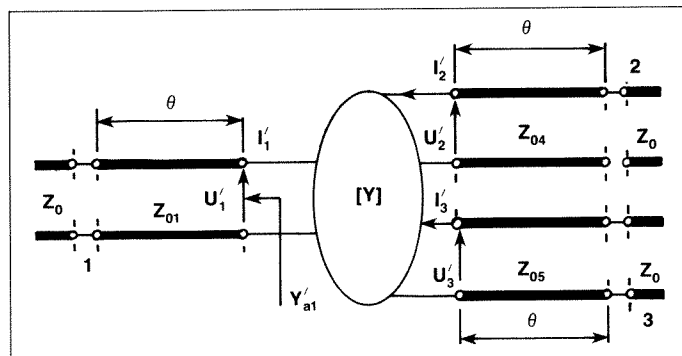
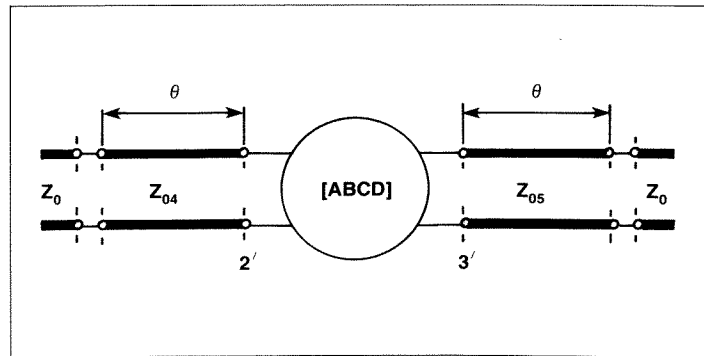

Figure 2. Definition of admittance parameters $[Y]$.
Figure 3. Equivalent circuit for determining S_{22} , S_{23} , S_{32} , and S_{33} .
At any electrical length, θ , the main divider section (see Figure 2) may be
Due to description (1) the scattering parameters of the entire divider can be easily obtained by using the conventional approach, i.e. the transfer matrix technique (5,6). As an example, let us calculate the elements S_{22} , S_{23} , S_{32} and S_{33} of the scattering matrix being sought. In this case the equivalent two-port network placed between planes 2' and 3' is similar to that shown in Figure 3. According to (1) and Figure 2 the transfer matrix (ABCD) of this network is
Consequently, the transfer matrix of the entire divider may be calculated by multiplying the corresponding transfer matrices of the cascade components shown in Figure 3. When the resulting matrix is known, then we can evaluate the divider related to its scattering matrix, i.e. the scattering elements mentioned above. It is obvious that the remaining scattering parameters of the divider being analyzed may be evalu-